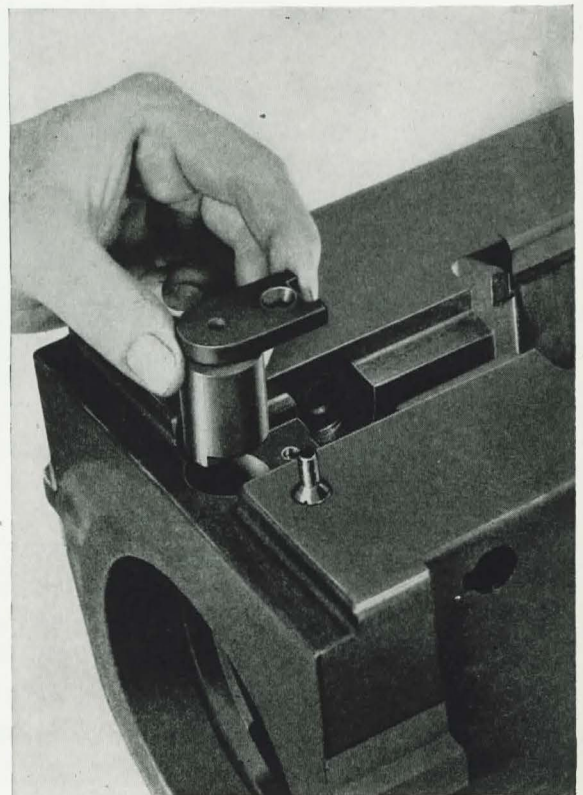

Figure 72
- (1) Remove the barrel stop retaining screw and pull the barrel stop out of the housing, **Figure 72**.